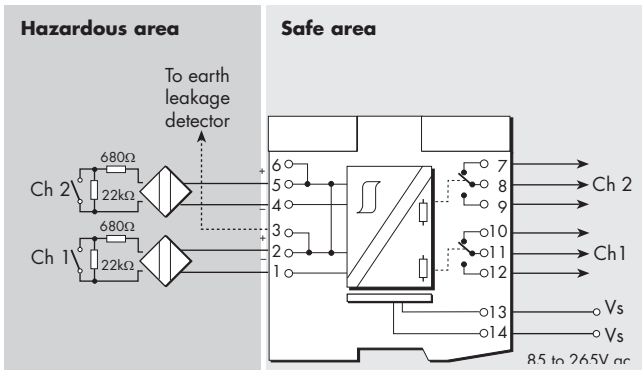

Figure 6.18: MTL5018AC wiring diagram and connections
See figure 6.18 for wiring connections.
**Note** that if the LFD facility is enabled for switch inputs, the resistors shown in figures 6.18 and 6.19 MUST be fitted.